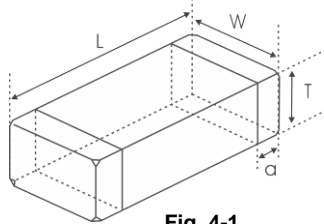
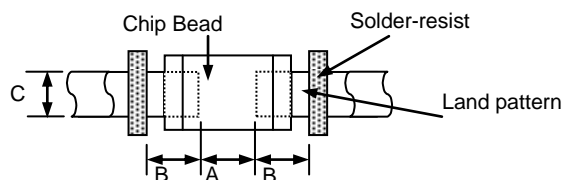

Fig. 4-1
Fig. 4-2
- 1) Dimensions and recommended PCB pattern for reflow soldering: See Fig.4-1, Fig.4-2 and Table 4-1.